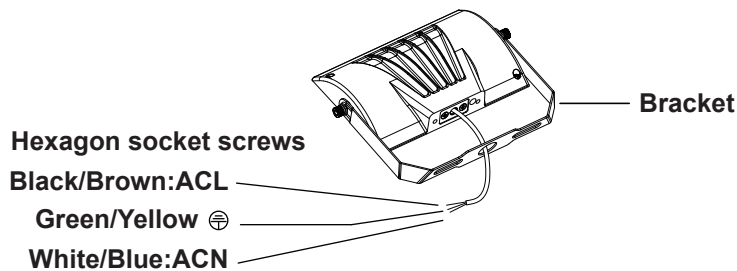

figure 3.3
Step 2: Connect the wires properly according to the right wiring requirements (pay attention to positive wire, negative wire and ground wire), and then put the wires into lamp pole. (figure 3.3)